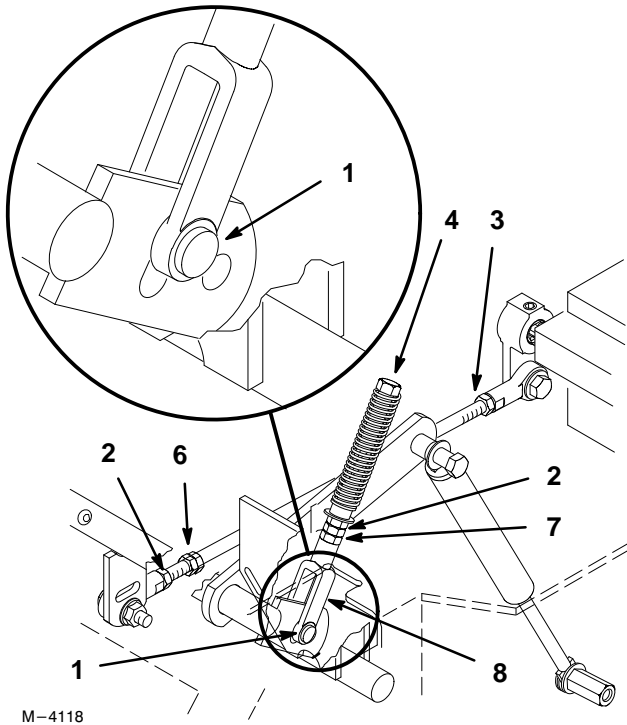

Figure 50
2. Begin with either the left or right motion control lever. Move lever to the neutral (but not locked) position and pull lever back until the clevis pin (on arm below pivot shaft) contacts the end of the slot (just beginning to put pressure on spring) (Fig. 50).
4. If adjustment is needed, loosen the nut against the yoke (Fig. 50).
5. Apply slight rearward pressure on the motion control lever, turn the head of the adjustment bolt in the appropriate direction until lever is centered in neutral lock position (keeping rearward pressure on the lever will keep the pin at the end of the slot and allow the adjustment bolt to move the lever to the appropriate position (Fig. 50).
4. Loosen locknut at ball joint on pump control rod (Fig. 50).
6. Adjust pump rod length by rotating double nuts on rod, in the appropriate direction, until wheel is still or slightly creeps in reverse (Fig. 50).